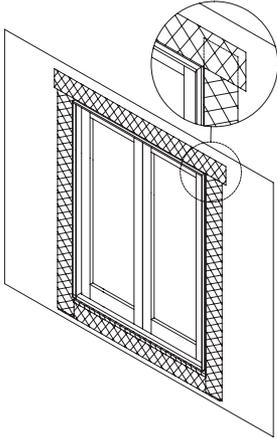

Figure 15
19. The length of the head flashing should equal width of RO + (2x width of the flashing material) + 2". Extend 1" beyond edge of each side flashing (see figure 15). Attach top edge of flashing to the wall.